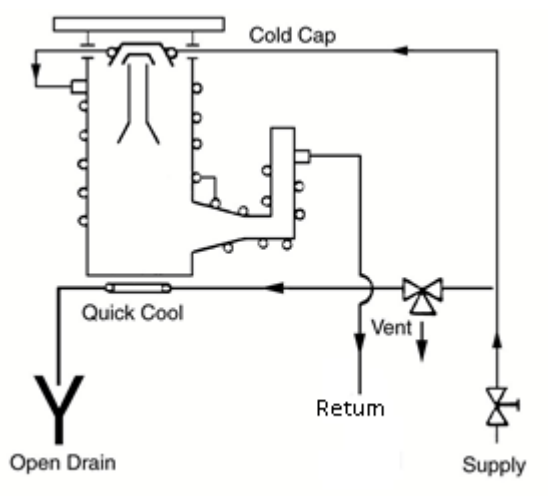

Figure 11 HS-16/20 Cooling Water Connections
- 1 Connect the cold cap cooling coil and all body and foreline cooling in series except the Quick Cool coil (see the following paragraph) as shown in Figure 11. Refer to Table 4 for the cooling water flowrate for your pump type. Higher flows will not harm the pump.